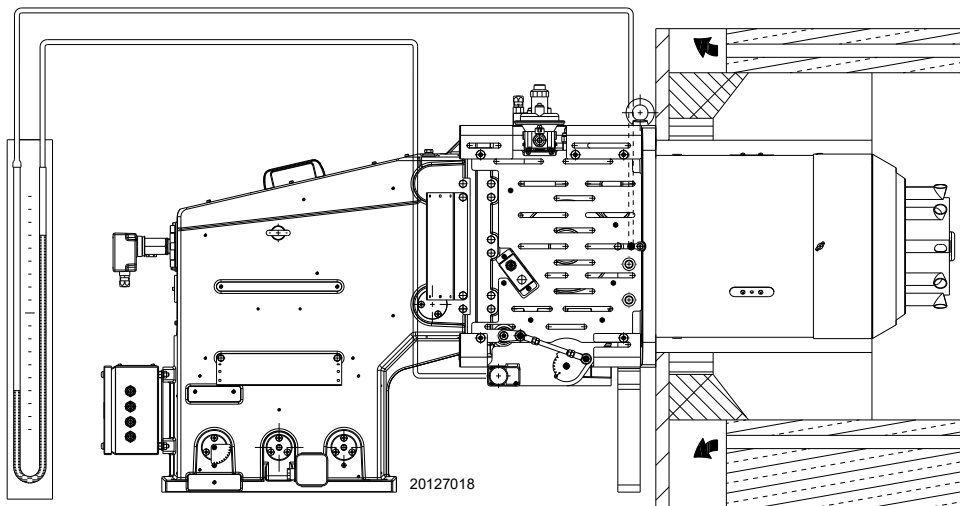

Fig. 22
- Fit a U-type pressure gauge or a differential pressure gauge (Fig. 22), with socket (+) on the gas pressure of the pipe coupling and (-) in the combustion chamber. The manometer
The arrival of the gas at the pipe coupling is shown on the U-shaped pressure gauge (Fig. 22 on page 22) or else with the help of a digital pressure gauge on the pressure test point under the pipe coupling.